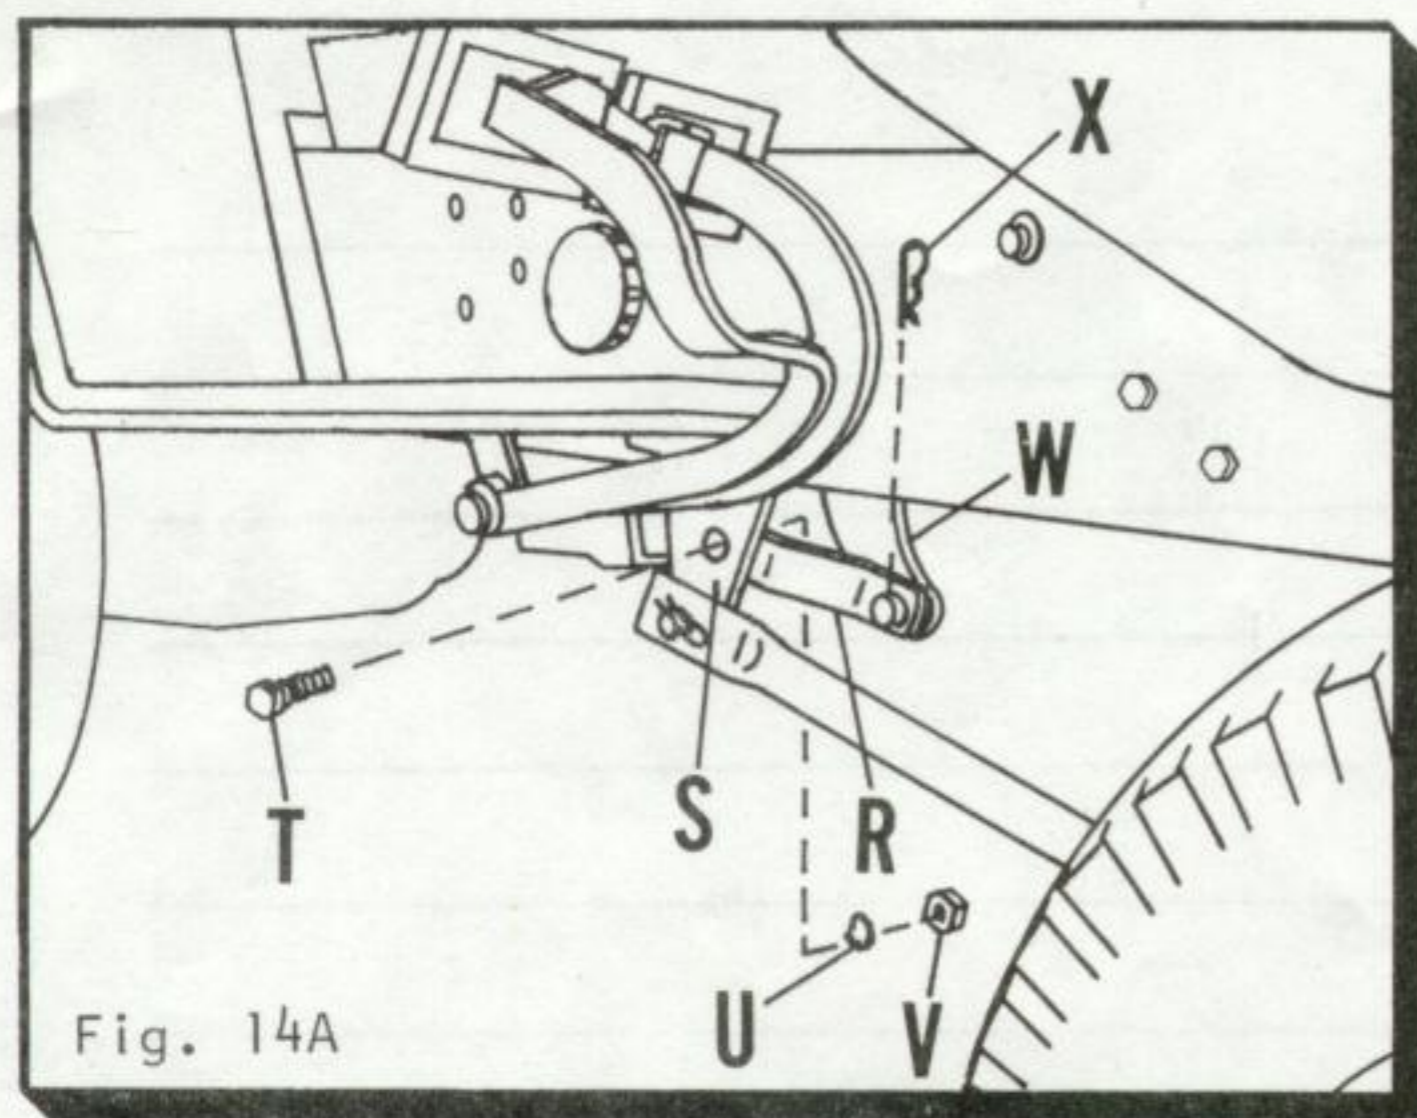

Fig. 14A
1. Fasten cross shaft support strap (R) loosely to tractor lift bracket (S) with bolt (T), lock washer (U), and nut (V). (See Fig. 14A)
2. Slip other end of cross shaft support strap (R) onto peg on end of tractor cross shaft lever (W).
3. Secure cross shaft support strap (R) to tractor cross shaft lever (W) with hair cotter pin (X).
4. Tighten bolt (T), lock washer (U), and nut (V) holding cross shaft support shaft (R) to tractor lift bracket (S).